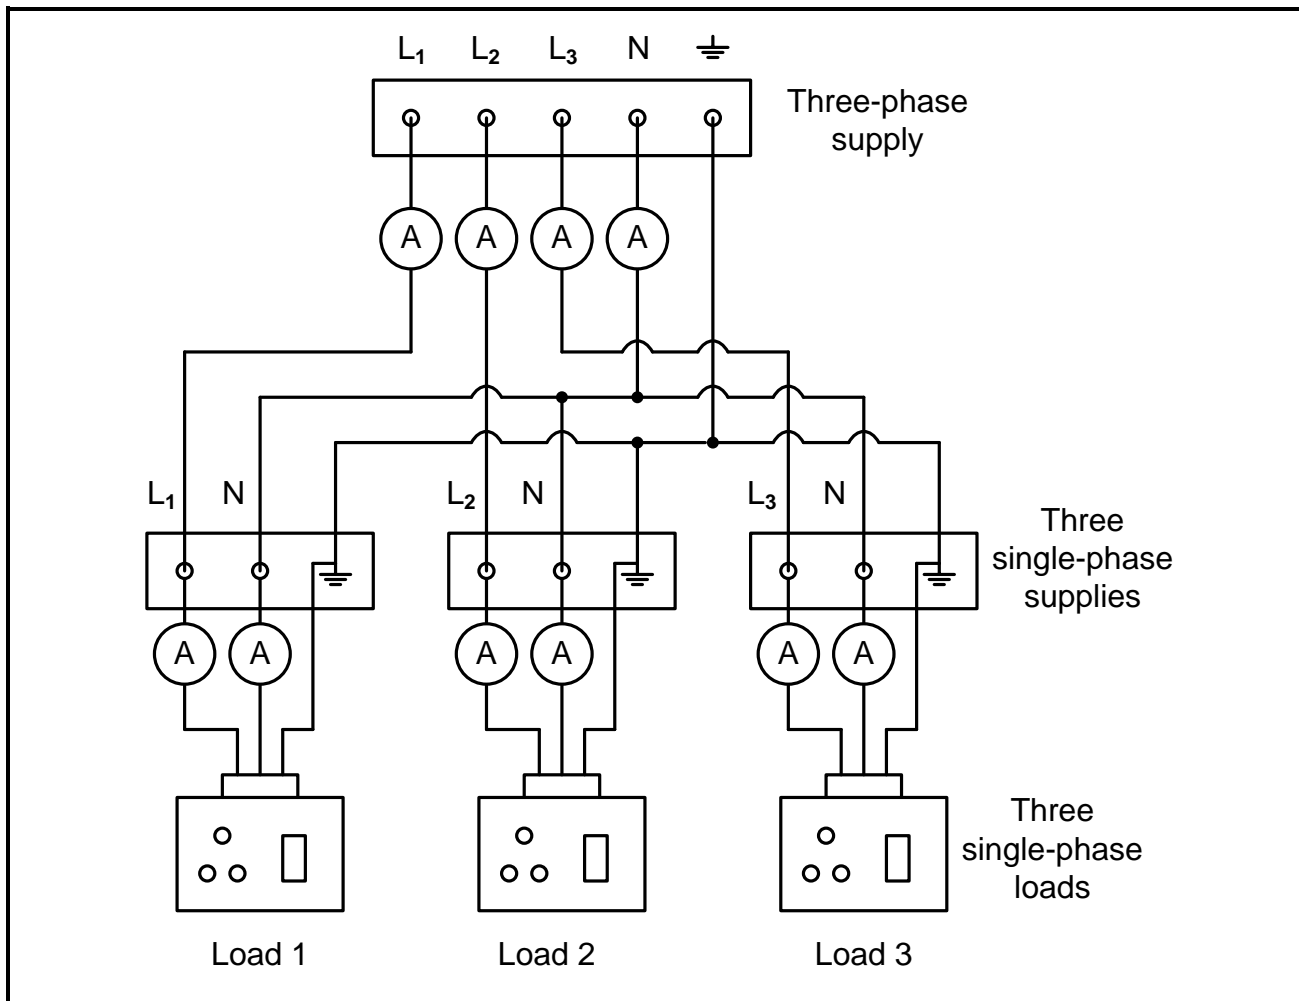

FIGURE 4.2.3
- Build the circuit in FIGURE 4.2.3 on the panel using the components provided.